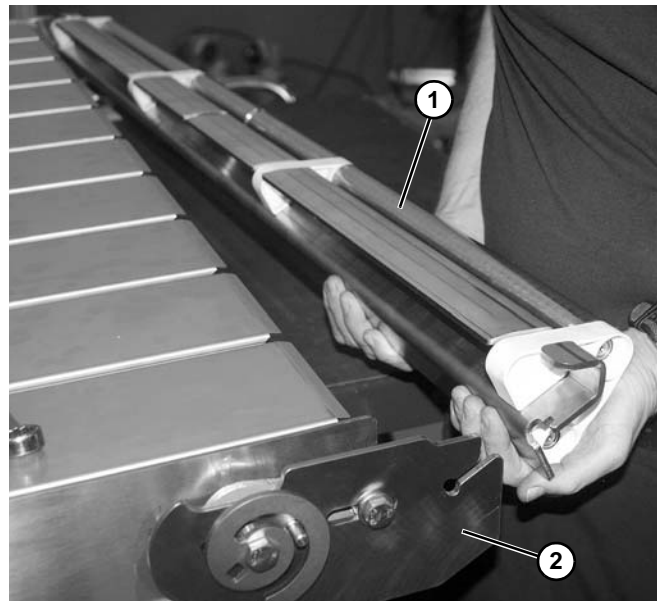

Figure 150
- Slide the nose bar idler (**Figure 150, item 1**) off the pivot tail blocks (**Figure 150, item 2**).